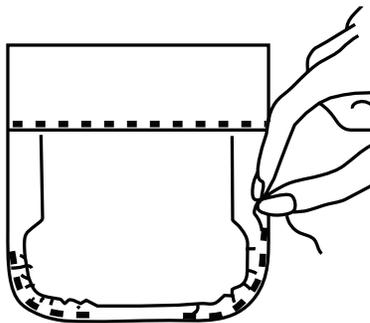

Figure 9
- Pull up the gathering stitches around the curves just enough to shape the pocket curve along the 5/8-in. stitching (Figure 9).